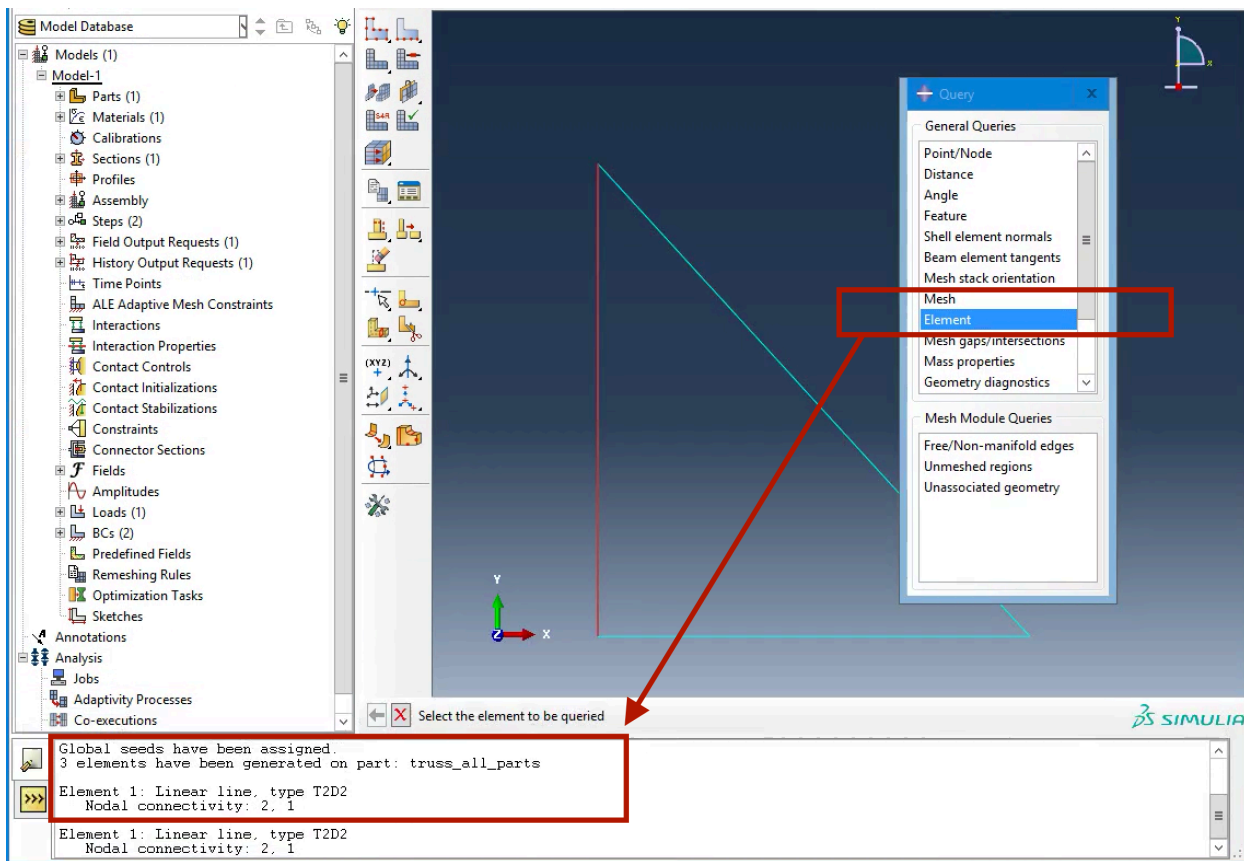

Figure 32 Query elements
- Next, click on the **Mesh Part** button, and then, click on **Yes**. Abaqus will show you a message on message area about successfully generating the mesh and number of generated elements. For further inspection, you can use **Query** toolset from **Tools** menu. In general, this toolset can provide you with useful information in each module. Query toolset in the Mesh module allows you to obtain information about the nodes and elements in the mesh. For instance, by clicking on Element and then selecting an element, the Query toolset gives you some information element id, type, and nodal connectivity (Figure 32)